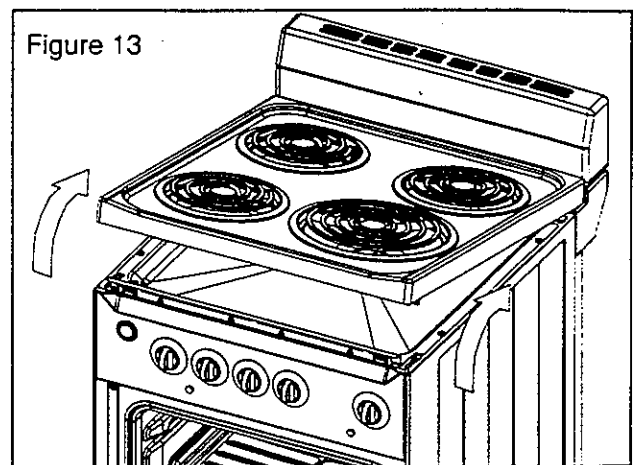

Figure 13
- 2- After lifting the cooktop high enough, locate the support rod and put it into place as shown in figure 13.